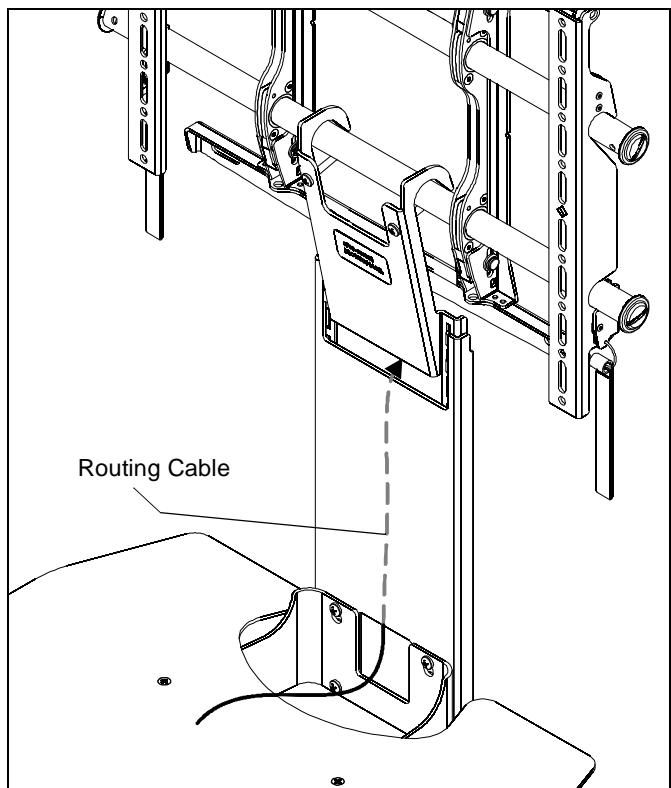

Figure 6
2. Route cable from accessory up and behind FCS100. (See Figure 6)